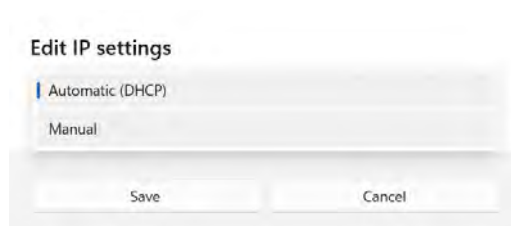

Figure 6.3 Edit IP assignment
4. Change IP settings to Manual (See figure 6.3).